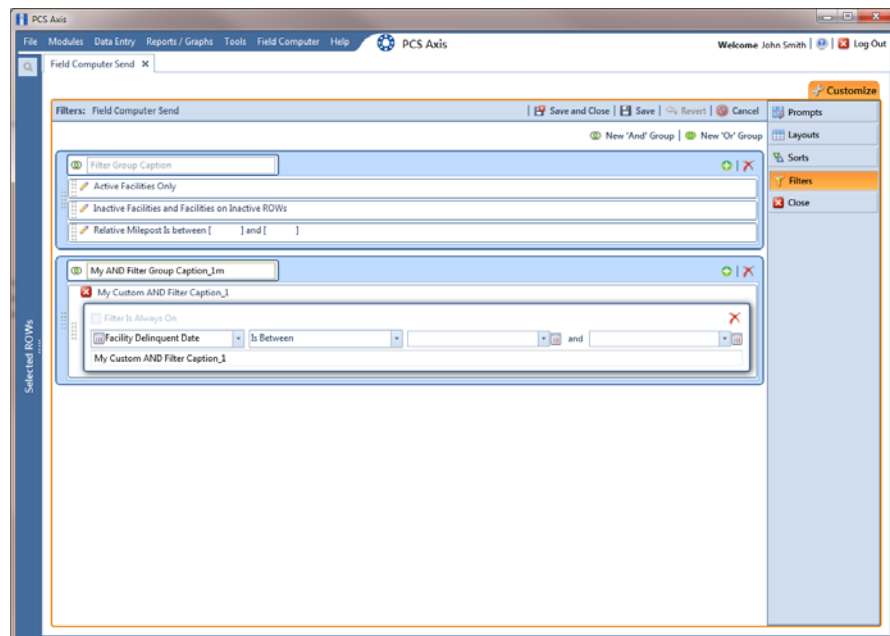

Figure 13-37. New 'And' Filter Group
- 4 Click the **Customize** tab , then the **Filters** button  to open the *Filters* page (Figure 13-37, page 592).
- 5 Click  **New 'And' Group** to open the filter properties group box (Figure 13-37, page 592).
- 8 If the AND filter group includes a date filter, such as *Facility Delinquent Date Is Between* shown in Figure 13-37, set a date range using a calendar or dynamic dates in the following manner: